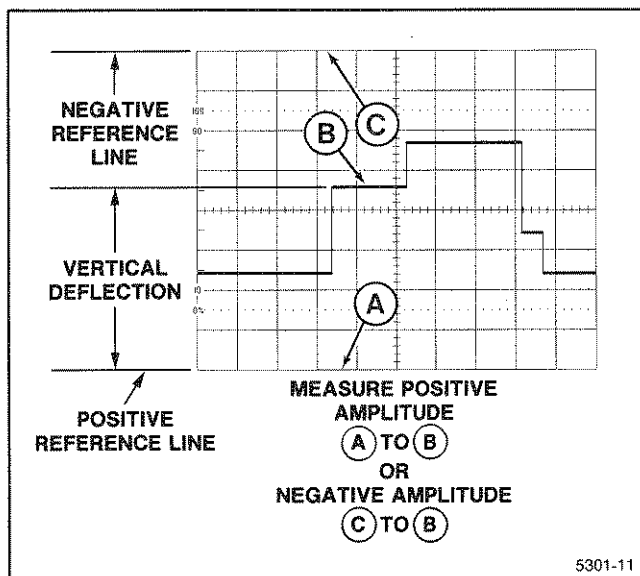

Figure 6-2. Ground referenced voltage measurement.
4. Set the AC-GND-DC switch to DC. Measure the divisions of vertical deflection between the reference line and the desired point on the waveform (see Figure 6-2).
**EXAMPLE:** The vertical distance measured is 4.6 divisions (see Figure 6-2). The waveform is above the reference line, the VOLTS/DIV switch is set to 2 V, and a 10X scale-factor-switching probe is used.